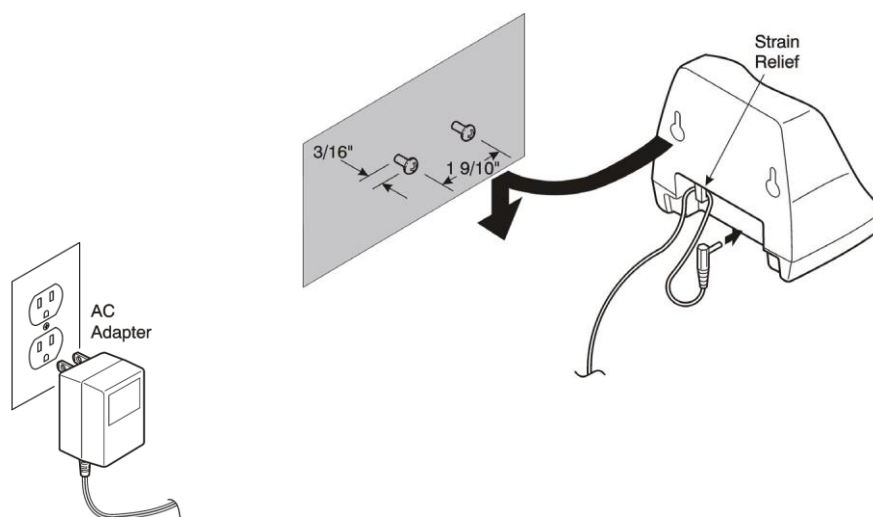

Figure 2-136 Placing the Charging Unit on the Wall
4. Plug the AC adapter into a standard 120 Vac wall outlet. Refer to Figure 2-136 Placing the Charging Unit on the Wall.